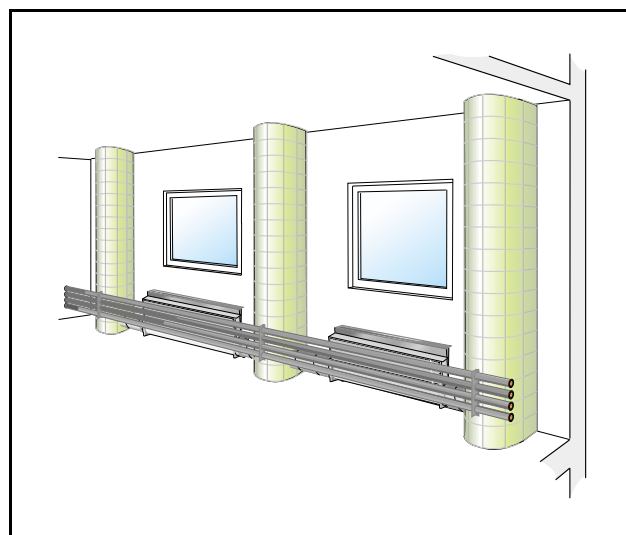

Figure 5. Primo with front position distribution pipe.
- Primo with front position distribution pipe (figure 5).